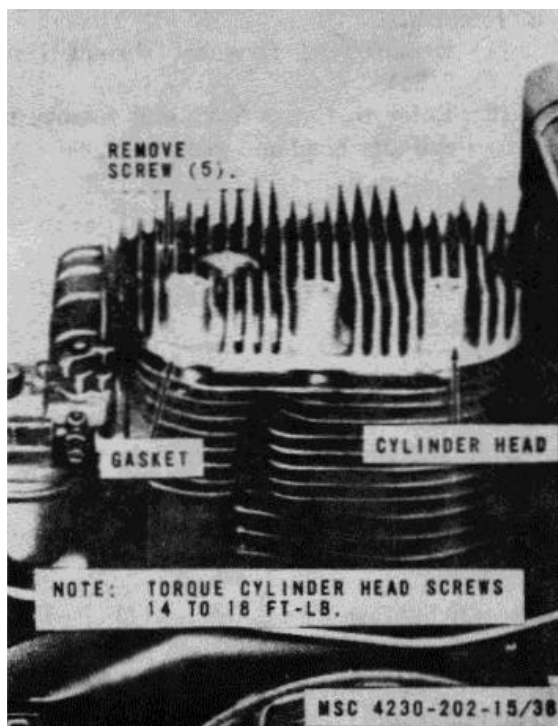

Figure 3-29. Cylinder head and gasket, removal and installation
- (1) Remove the flywheel shroud (para. 3-35).
- (2) Refer to figure 3-29 and remove the cylinder head and gasket.
- (1) Refer to figure 3-29 and install the cylinder head and gasket.
- (2) Install the flywheel shroud (para. 3-35).